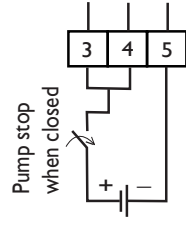

Fig. 2e
- 3) External stop of pump, terminals 3 and 5 to be used (see fig. 2e).